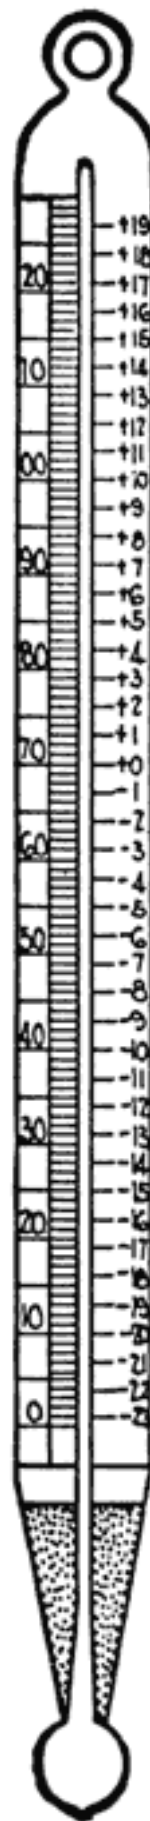

Fig. 37
In the constant voltage type of generator, the charging current automatically adjusts itself to the condition of the battery. In the constant current type, the generator current remains constant, and the voltage changes somewhat to keep the current constant. Individual cases often require that another current value be used. In this case, the output of the generator must be changed. With most generators, a current regulating device is used which may be adjusted so as to give a fairly wide range of current, the exact value chosen being the result of a study of driving conditions and of several trials. The charging current -should never be made so high that the temperature of the electrolyte in the battery remains above 90° F. A special thermometer is very useful in determining the temperature. See Fig. 37. The thermometer bulb is immersed in the electrolyte above the plates through the filler hole in the tops of the cells.
**The temperature of the electrolyte affects the specific gravity**, since heat causes the electrolyte to expand. If we take any battery or cell and heat it, the electrolyte will expand and its specific gravity will decrease, although the actual amount of acid is the same. The change in specific gravity amounts to one point, approximately, for every three degrees Fahrenheit. If the electrolyte has a gravity of 1.250 at 70°F, and the temperature is raised to 73°F, the specific gravity of the battery will be 1.249. If the temperature is decreased to 67°F, the specific gravity will be 1.251. Since the change of temperature does not change the actual amount of acid in the electrolyte, the gravity readings as obtained with the hydrometer syringe should be corrected -one point for every three degrees change in temperature. Thus **70°F is considered the normal temperature**, and one point is added to the electrolyte reading for every three degrees above 70°F. Similarly, one point is subtracted for every three degrees below 70°F. For convenience of the hydrometer user, a special thermometer has been developed by battery makers. This is shown in Fig. 37. It has a special scale mounted beside the regular scale. This scale shows the corrections which must be made when the temperature is not 70°F. Opposite the 70° point on the thermometer is a "0" point on the special scale. This indicates that no correction is to be made. Opposite the 67° point on the regular scale is a -1, indicating that 1 must be subtracted from the hydrometer reading to find what the specific gravity would be if the temperature were 70°F. Opposite the 73° point on the regular scale is a +1, indicating that 1 point must be added to reading on the hydrometer, in order to reduce the reading of specific gravity to a temperature of 70°F.